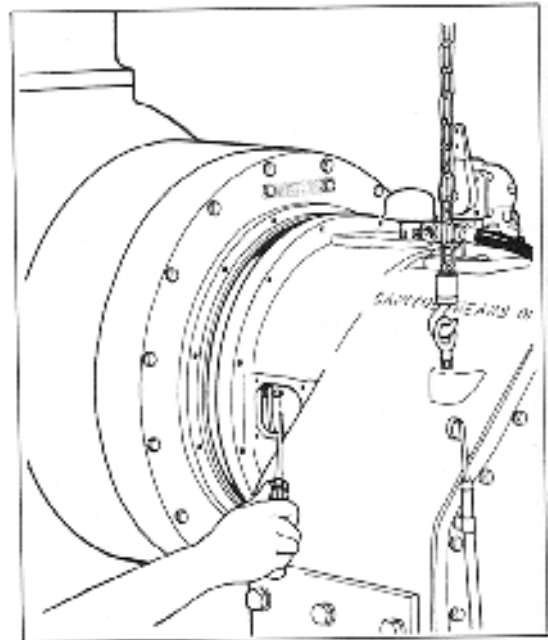

Fig. 20 Maintaining clutch in forward driving drum while removing housing.
8. Insert screwdriver or similar object through side inspection hole to hold clutch assembly inside forward drum. Slowly move housing aft and away from oil dam. See fig 20.